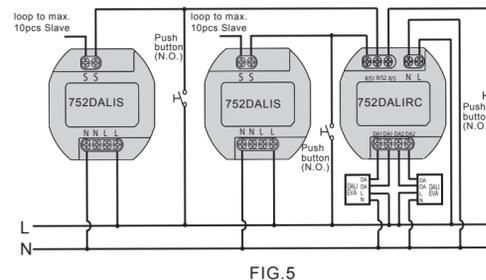
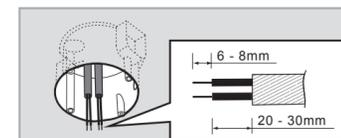
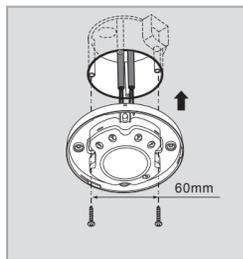

FIG.5
FIG.7
FIG.8
3.3.1.1 Normal operation (See FIG.5)
- 3.4.1.2 Pull out AC power cables from junction box (See FIG.7), then strip off 6 - 8mm of cable sheathing for wiring (See FIG.5).
3.4.1.3 Please refer to illustration of FIG.8 for correct wiring and fix the power box into junction box with 2pcs screws (See FIG.8).
3.4.2.3 Please refer to illustration of FIG.5 for correct wiring and then screw the flush-mount enclosure tightly.
3.4.3.4 Refer to wiring diagrams for correct wiring connection (See FIG.5). There is a square hole in the fixing plate, when you put the fixing plate into the enclosure, please fit the fillister to the enclosure's protrusion (See FIG.8), then fix the sensor head on the power box following FIG.13 and assemble them with the attached 4pcs non-dropping screws.